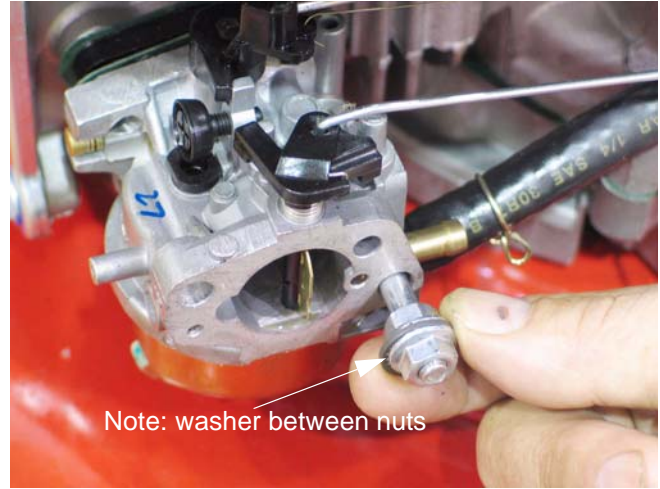

Figure 3.12
- 2c. After the second stud is removed, the carburetor can be maneuvered to disconnect the linkages. See Figure 3.12.